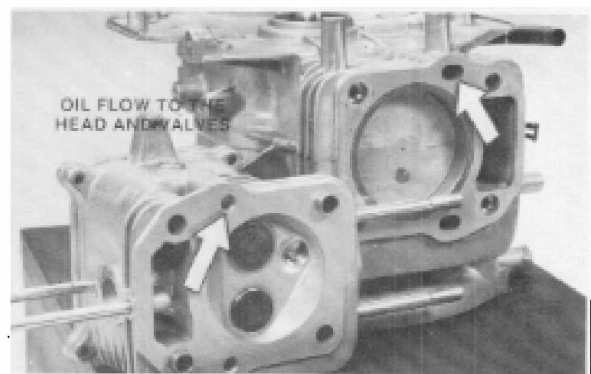

Figure 4-14
5. Lubricating oil flows into the head assembly through the passages shown in Fig. 4-14.